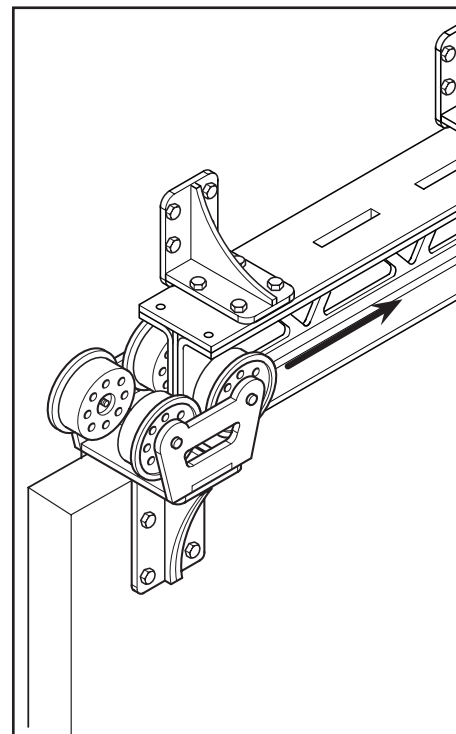

Figure 10
12. Hang the door by carefully sliding the wheels of the hanger into the I-Beam track (Figure 10).